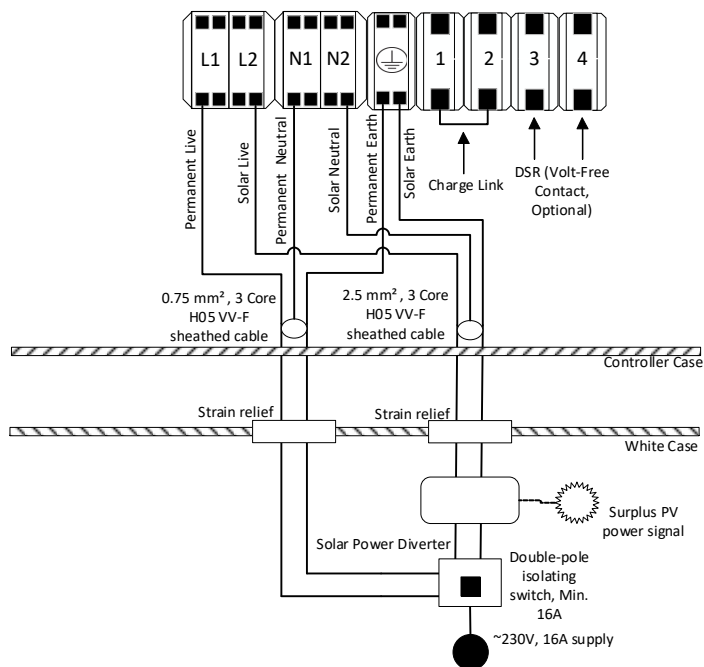

Figure 12 - Flextherm Eco G2 E Heat Battery wiring with solar power diversion
- o With Solar Power Diversion follow Section 6.4.2, Figure 12.
Potential dual-supply – Always isolate both supplies to the Heat Battery controller before working on the appliance. Ensure that Links 1 & 2 are removed (see Figure 12) and that the power diversion controller output is modulating AC. Modulating DC power diversion controllers are NOT compatible with the product and their use poses a fire risk.